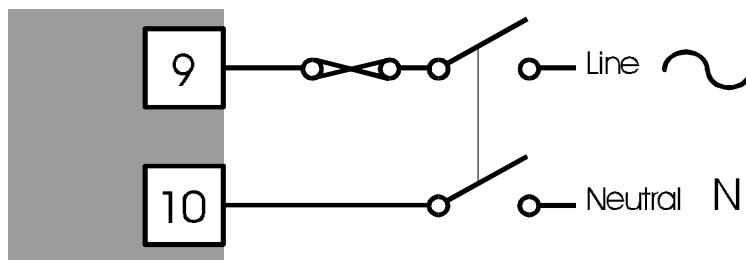

**Figure 3-1 Rear Terminals**
**CAUTION:** This equipment is designed for installation in an enclosure which provides adequate protection against electric shock. Local regulations regarding electrical installation should be rigidly observed. Consideration should be given to prevention of access to the power terminations by unauthorised personnel. Power should be connected via a two-pole isolating switch (preferably situated near the Controller) and a 1A fuse, as shown in Figure 3-1.